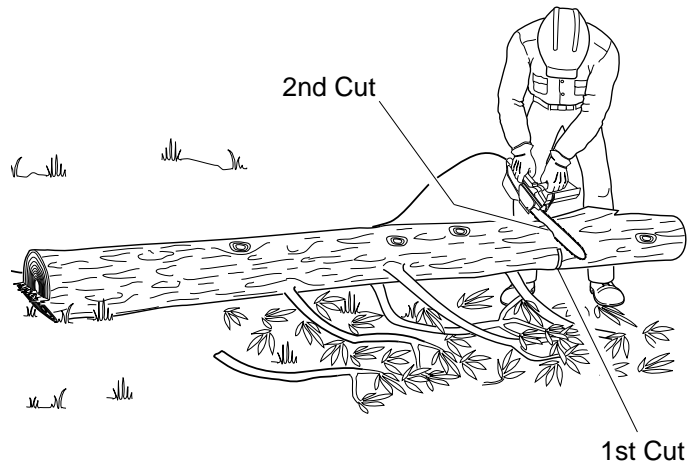

Figure 12 - Bucking Log When Log Is Supported On One End
1. Make first cut on underside of log (see Figure 12). Use top of guide bar to make this cut. Cut 1/3 through diameter of log. This cut will keep section from splintering when cut.